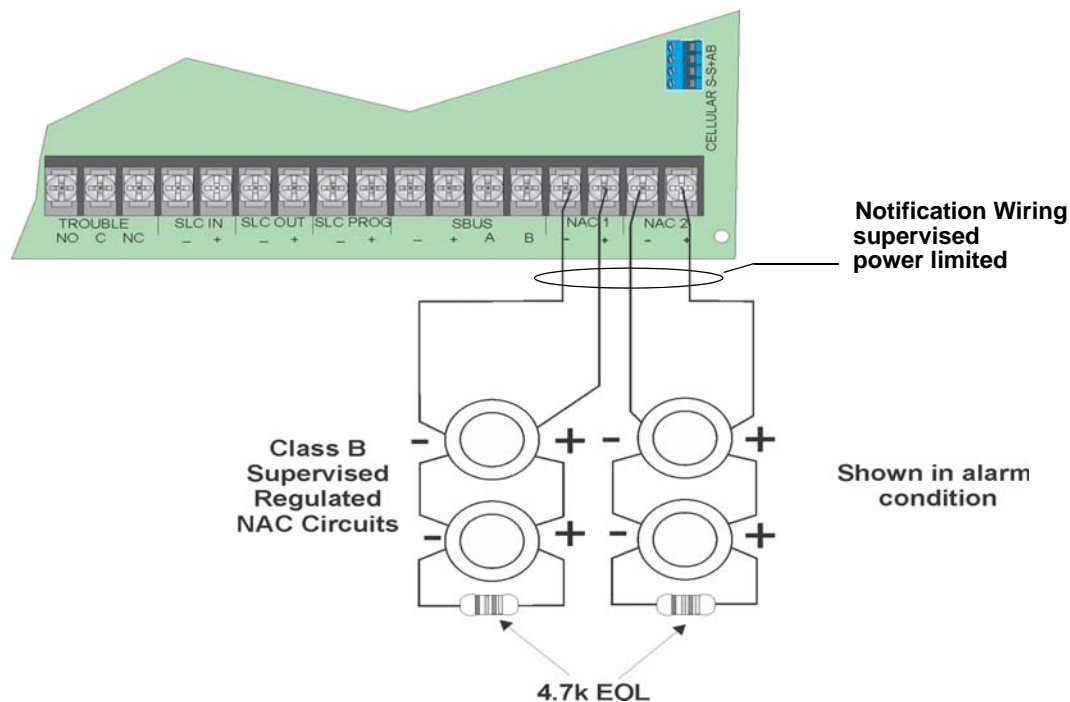

Figure 4.45 Class B Notification Appliance Circuit Wiring
1. Wire Class B Notification appliances as shown in Figure 4.45.